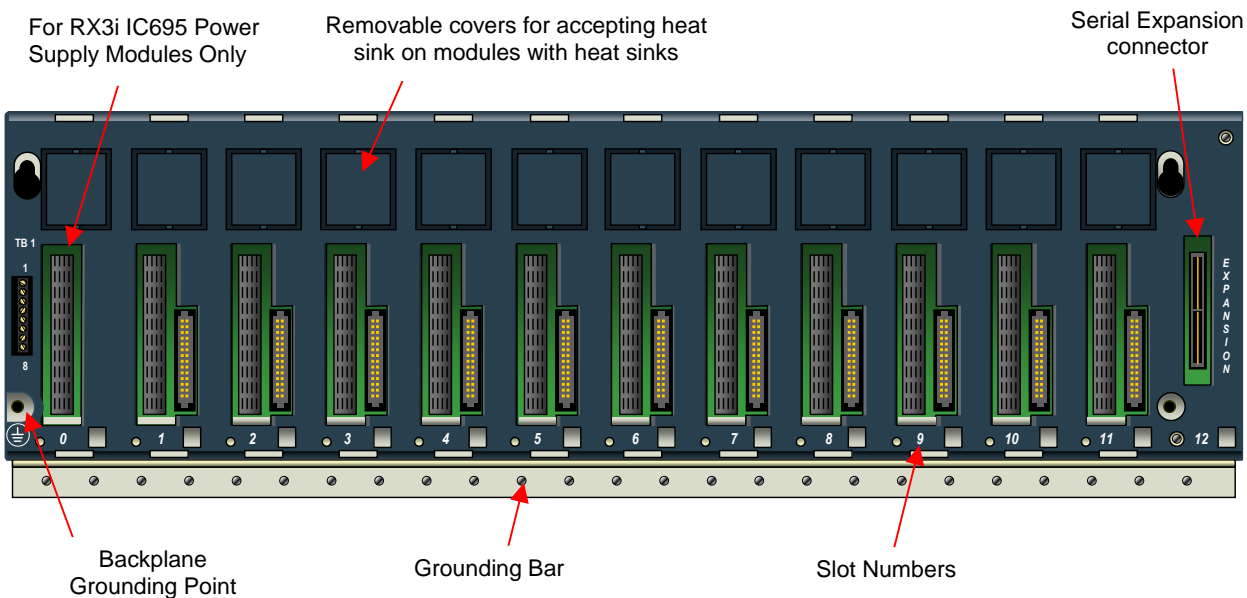

Figure 58: Features of RX3i Universal Backplanes
- Terminal Strip on the left (Figure 58) for Isolated +24Vdc input.
- Serial Expansion connector for connection (Figure 58, far right) to Serial Expansion and Remote Backplanes (12- and 16-slot models only).
- Slot numbers are printed on the backplane (Figure 58) and are used for reference for configuration in PAC Machine Edition (PME). Slots and connectors are described on the following pages. Most modules occupy one slot. Some modules, such as CPUs and AC Power Supplies occupy two slots.